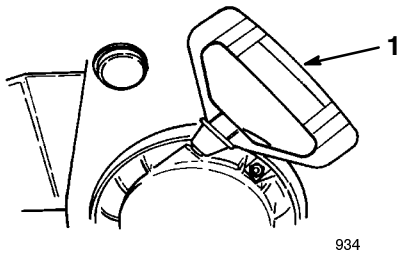

Figure 22
- **Recoil Starter (Fig. 22)**—The recoil starter is on the back side of the engine. Pull the recoil starter to start the engine.
- A. Grasp the recoil starter handle (Fig. 22) and pull it out slowly until positive engagement results; then pull the handle vigorously to start the engine.